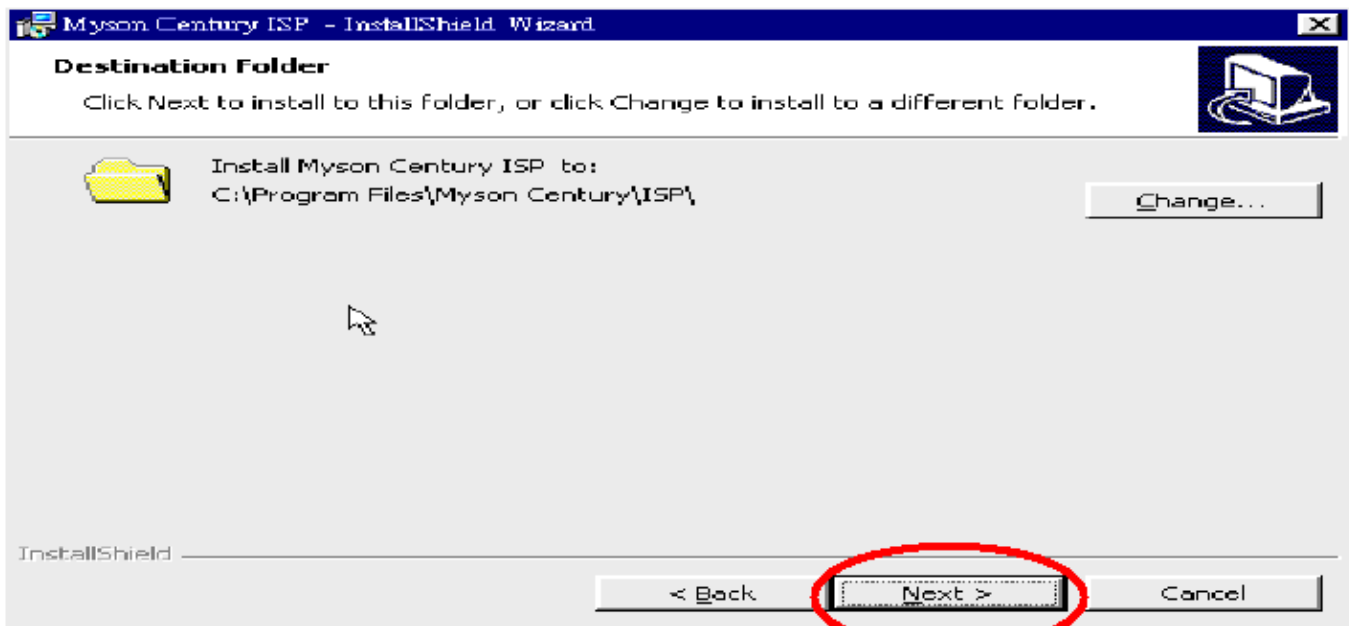

Fig 2.4
2.4 Keep default setting or press “ Change ” button for selecting the path that you want , and then press “ Next ” button to continue, see Fig 2.4.